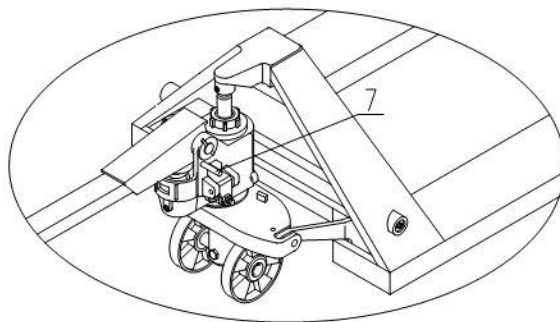

Fig. 3
- 3.6 See fig. 3. Turn the handle to level position and pull out the spring safety pin (7).